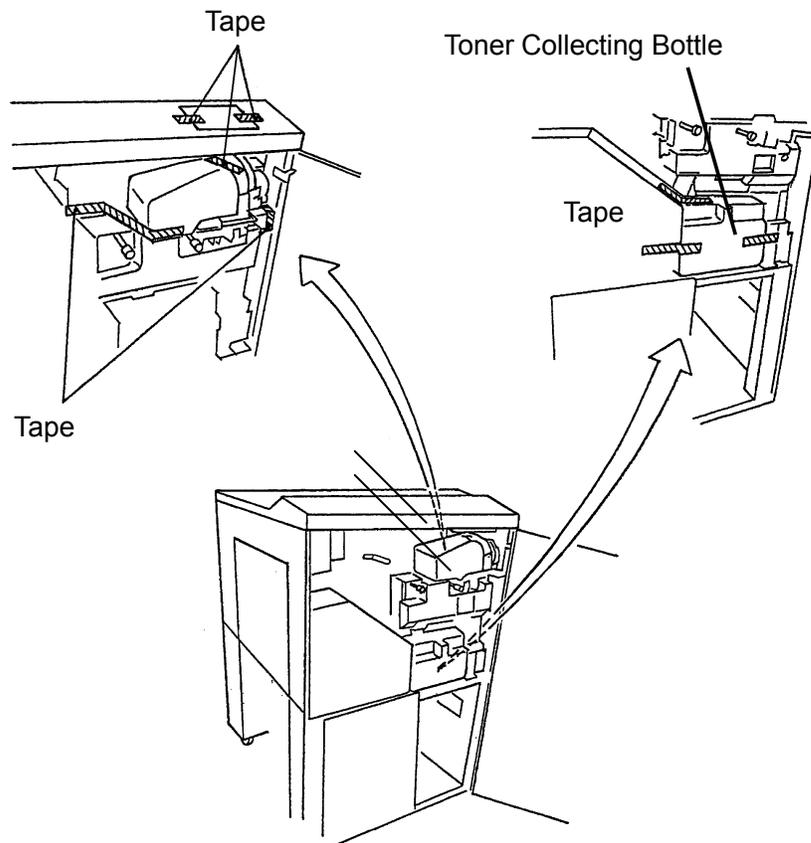

Figure 2-8
14. Remove all visible tape as shown in Figure 2-8 below.